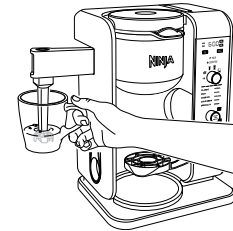

Fig. 19
- 3 Hold the cup under the frother and submerge the whisk just below the surface of the milk. This allows air to fold into the milk for the frothiest results (Fig. 19).